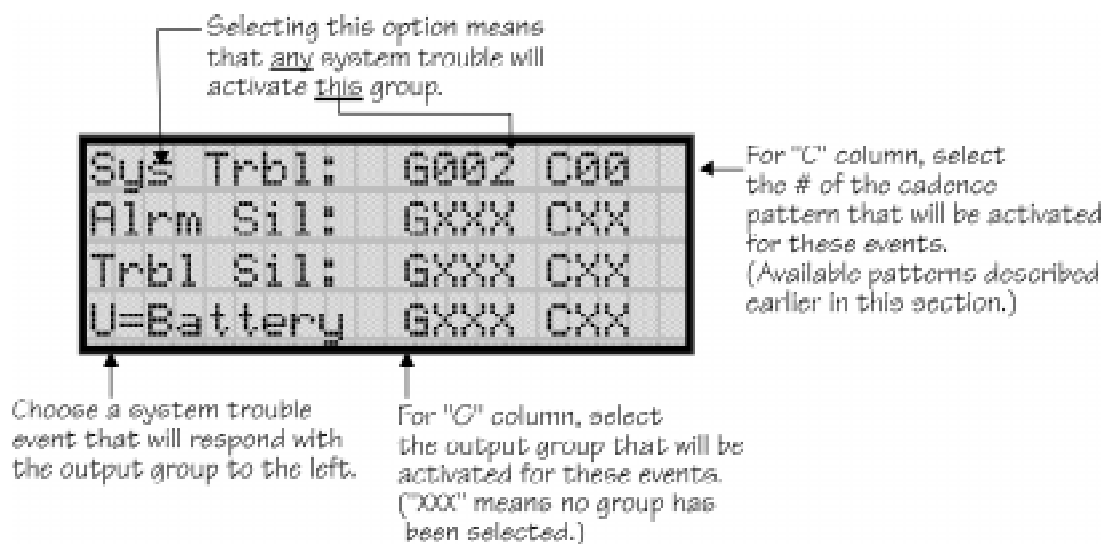

Figure 7-13 System Trouble Event Mapping Example
6. Press **1** for Trouble Events. A screen similar to the one in Figure 7-13 will display. Select a group and a cadence pattern for each event as needed for your application. The U: field is for a user-specified trouble condition. You can program an output group and cadence pattern for any of the following events: